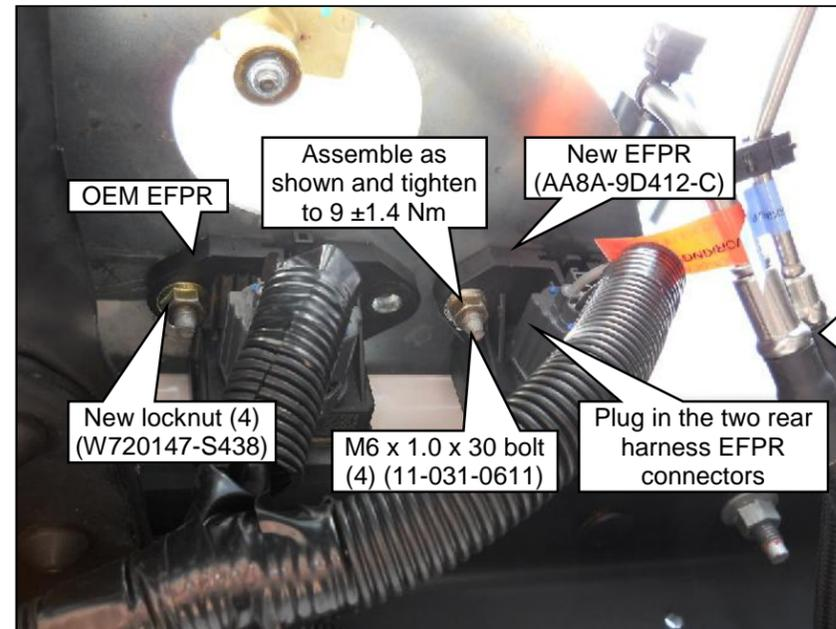

Figure 23.4 — EFPRs on Heat Shield
- Connect the rear frame harness EFPR electrical connectors to the OEM harness and the two EFPRs located on the left underside of the heat shield. **Figure 23.4.**